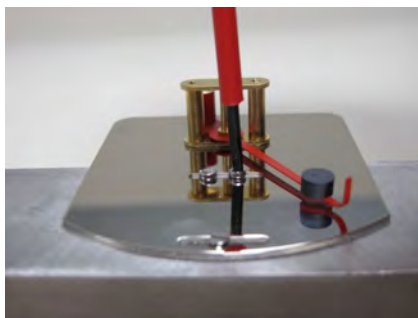

Fig. 41
5. ➤ Loosen fixing screws of the display base plate (Fig. 41) and remove the display base plate.